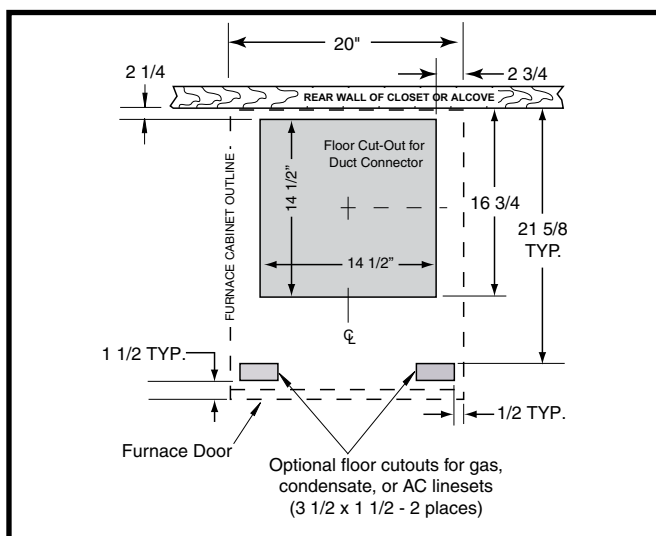
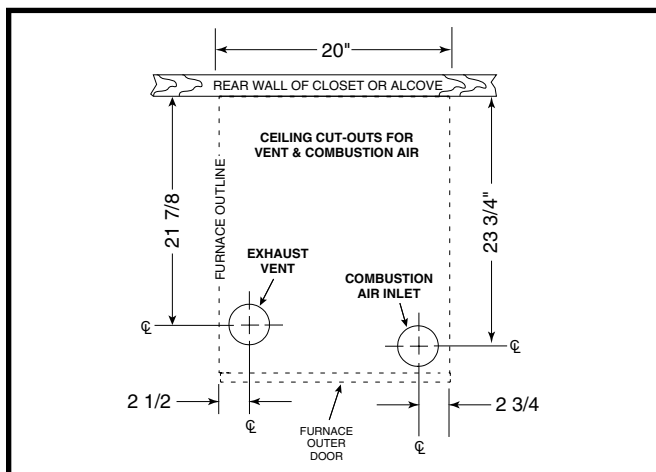

Figure 8. Floor Cutout Dimensions
Figure 9. Ceiling Cut-Out Dimensions
IMPORTANT NOTE: Cut-outs in the floor, must be carefully located to avoid misalignment of the furnace. To locate standard ducts, see Figure 8. For round ducts, see Figure 9.
1. Measure from the rear wall or alcove and mark the centerline of the cut-out on the floor. Using the centerline as a starting point, draw the rest of the duct cut-out to the dimensions shown in Figure 8.
6. Measure and drill gas hole and cut out for cooling coil (if applicable). See Figures 8 or 9.
IMPORTANT NOTE: Cut-outs in the ceiling and roof must be carefully located to avoid misalignment of the furnace, combustion air piping, and vent piping. See Figure 9.
2. Using the centerlines as a starting point, draw the rest of the cut-outs to the dimensions shown in Figure 9.